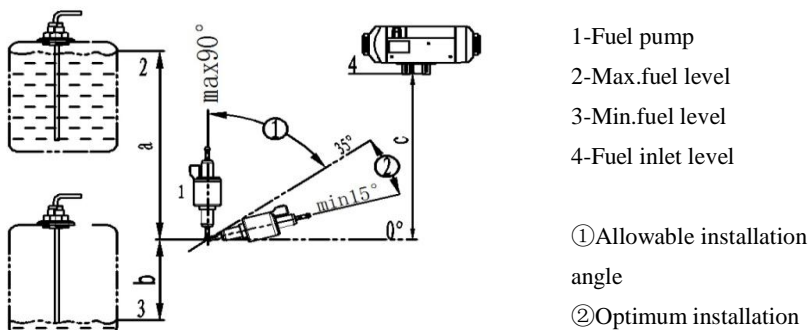

Fig. 15
4.4.1 The fuel pump shall be fixed in automobile with a fuel pump clamp with protective rubber cover. The outlet of the fuel pump shall tilt upwards. The tilt angle can be selected from the range of 15°~35° (as shown in Fig. 15). When conditions permit, the fuel pipe between the fuel pump and the heater shall go up gradually.
4.4.3 Difference in elevation between the level of fuel and the fuel pump as well as the difference in elevation between the fuel pump and the fuel inlet of the heater can produce pressure (or suction) in the fuel pipeline (See Fig. 15). So, these dimensions shall conform to the requirements as follows:  $a \leq 3\text{m}$   $b \leq 0.5\text{m}$  (Avoid of negative pressure may be produced in sealed fuel tank. In such case,  $b \leq 0.15\text{m}$ )  $c \leq 2\text{m}$ .